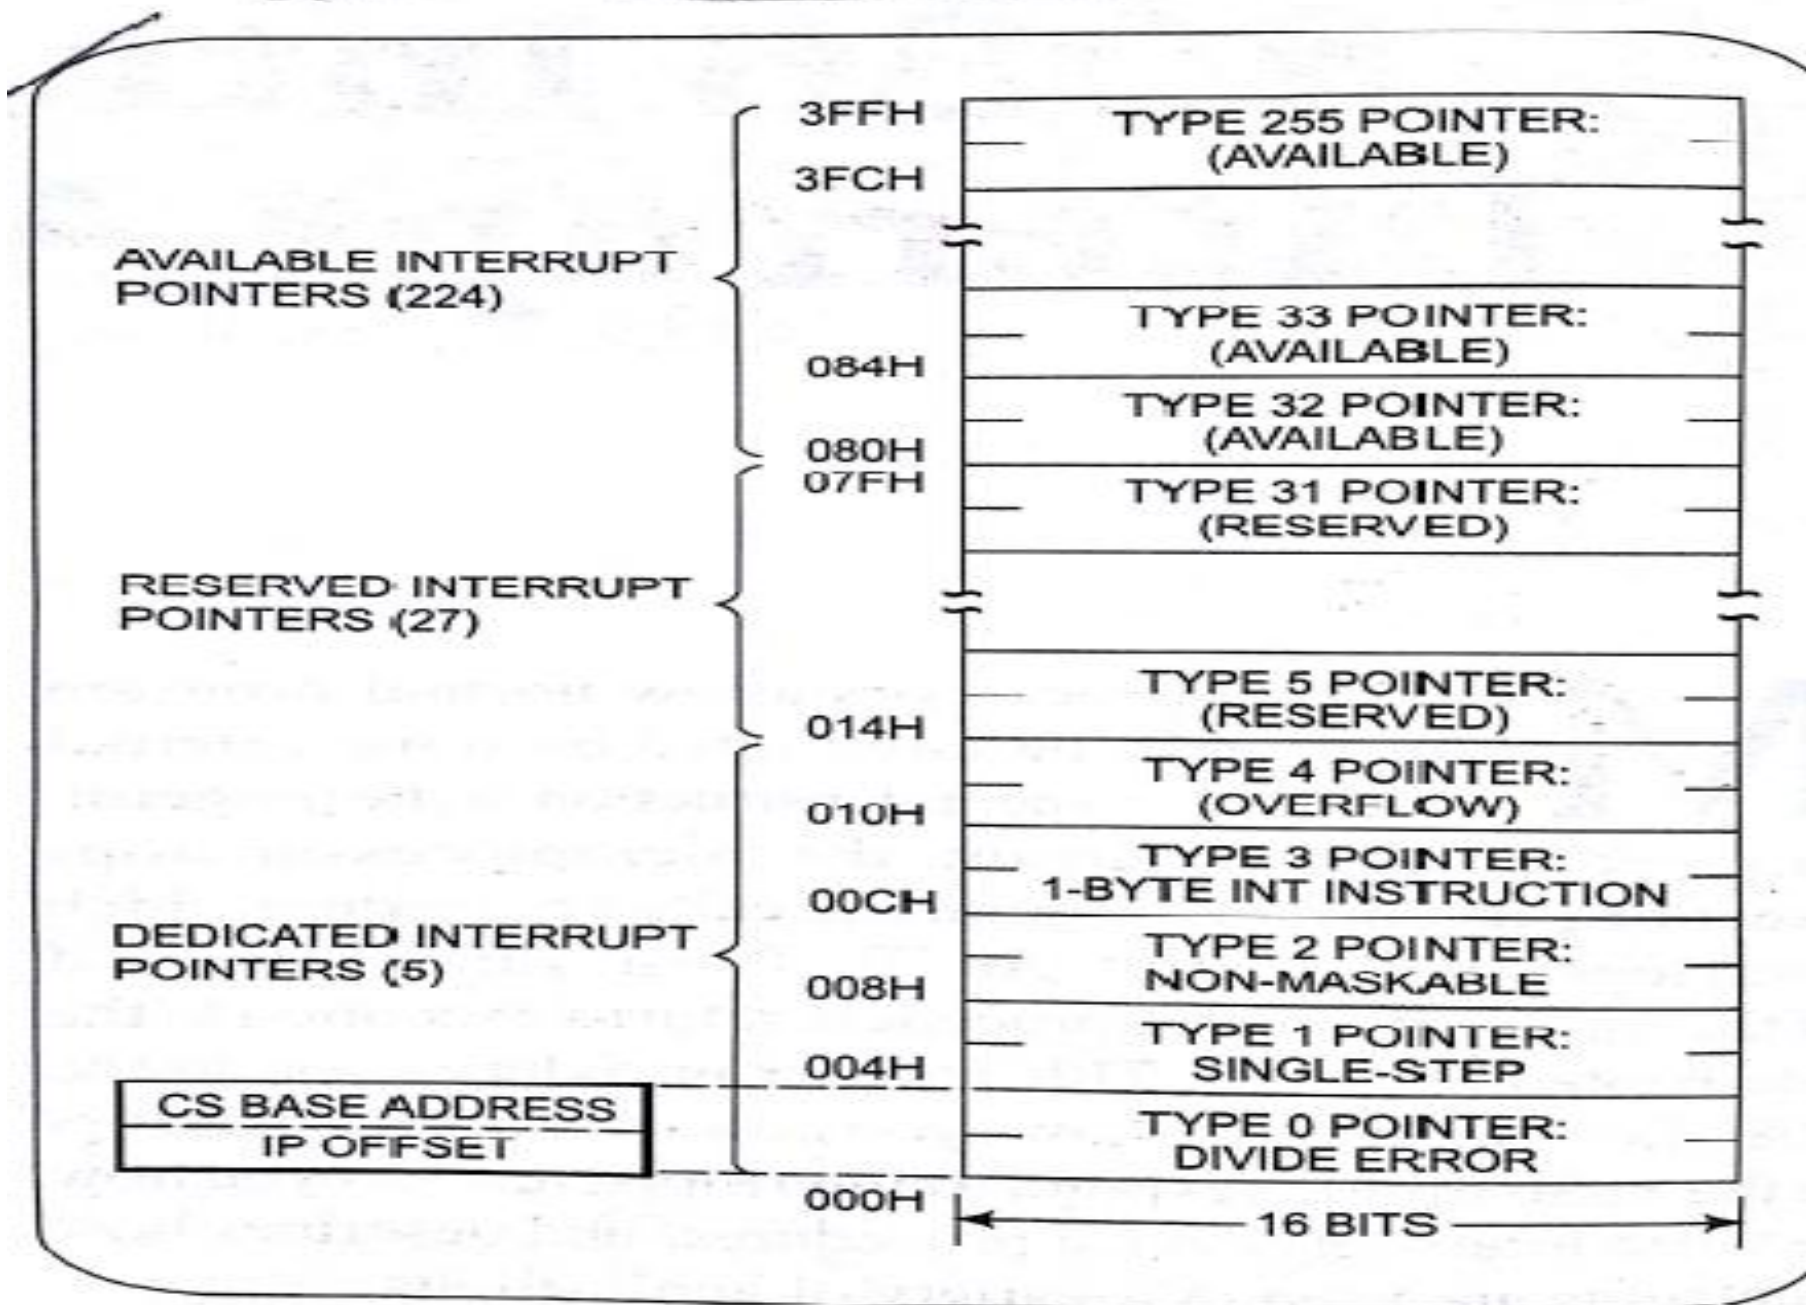

Fig. 8.2 8086 interrupt-pointer table.
- Fig 8.2 shows the interrupt-vector table in memory